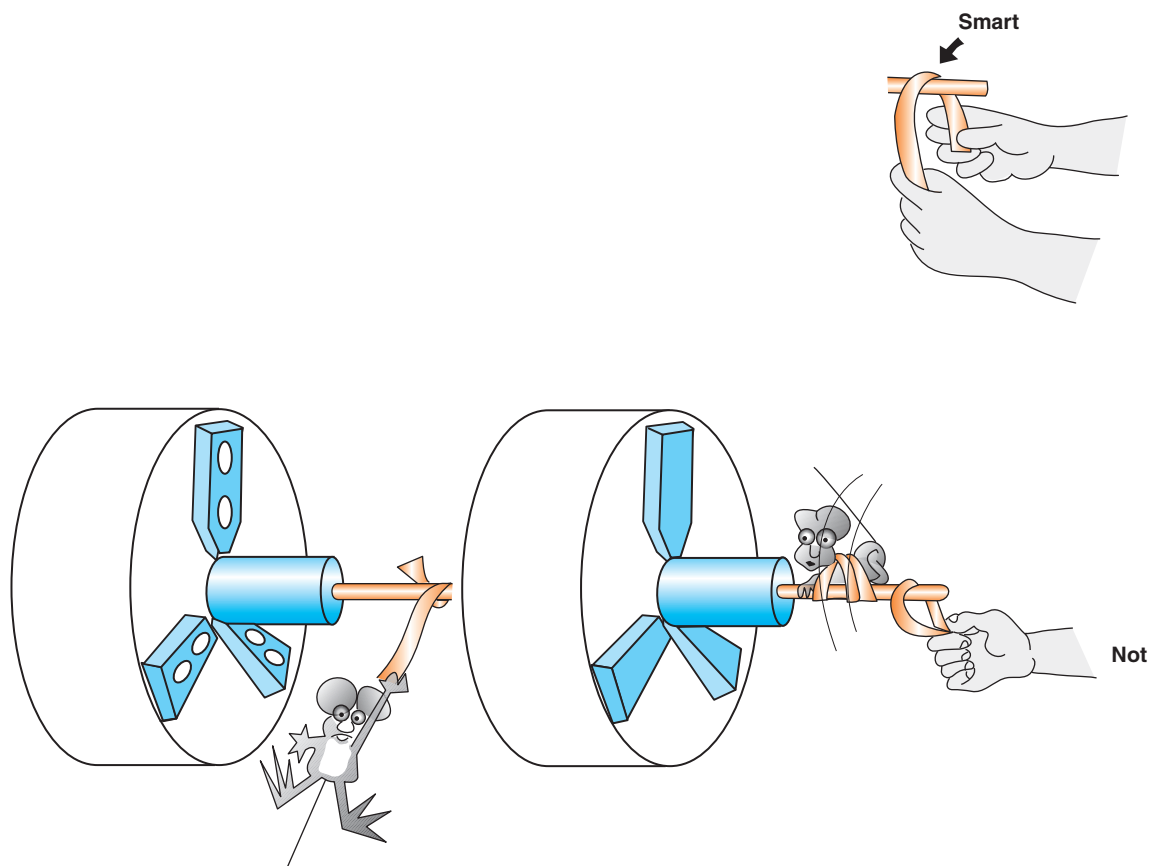

Figure 11-170 Warning: Holding sandpaper or cloth in one hand can catch and wrap your thumb into the fold!
8. Here's the result of holding sandpaper in one hand. The pinched paper can wrap around the shaft, catch your thumb, and pull it into the paper and shaft. You will get a nasty sanded thumb or a dislocation (Fig. 11-170).